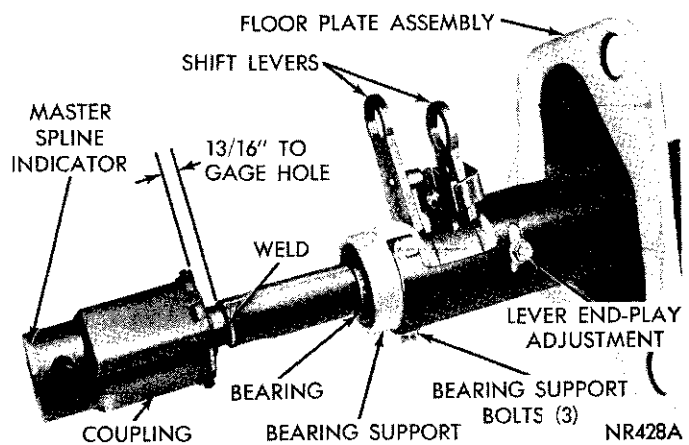

Fig. 31—Shaft Coupling Adjustment
(3) With front wheels in straight ahead position and master splines on wormshaft and coupling aligned, engage coupling with wormshaft and install the roll pin. **CAUTION: Do not apply end loads to steering shaft.**
(4) Hold column assembly with bracket against the instrument panel support. Install but **do not tighten** the two upper bracket nuts.
(5) **Center steering shaft coupling at midpoint of its travel.** This is accomplished by moving column and bracket assembly fore and aft in the instrument panel support so dimension between top of coupling and center of gauge hole is 13-16 inch (Fig. 31). Tighten the two upper bracket nuts to 110 inch-